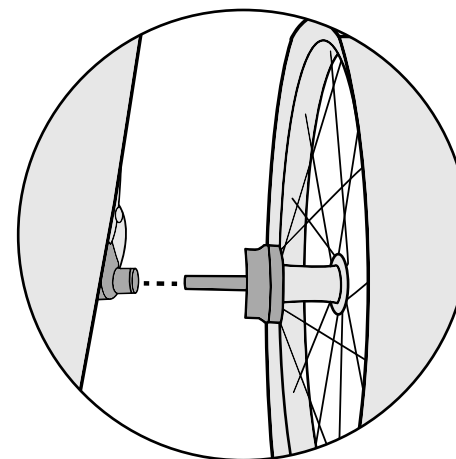

Figure 5
2. Insert wheel axle into axle receiver, and then release the button (Figure 5). Pull firmly on wheel to confirm the axle is fully engaged.